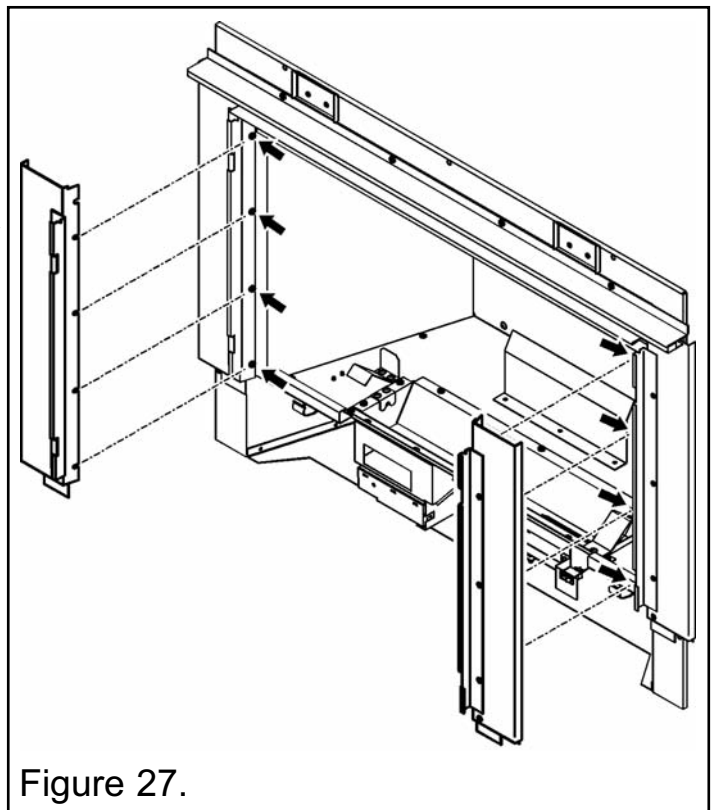

Figure 27.
1. There are eight screws at the inner side of the window area (See figure 27). Unscrew the eight screws until there is a gap of approximately 1.5mm between the screw head and metal parts. Do not remove the screws.
2. Locate the window side trims as shown in figure 27. Tighten the screws to secure the trims in place.